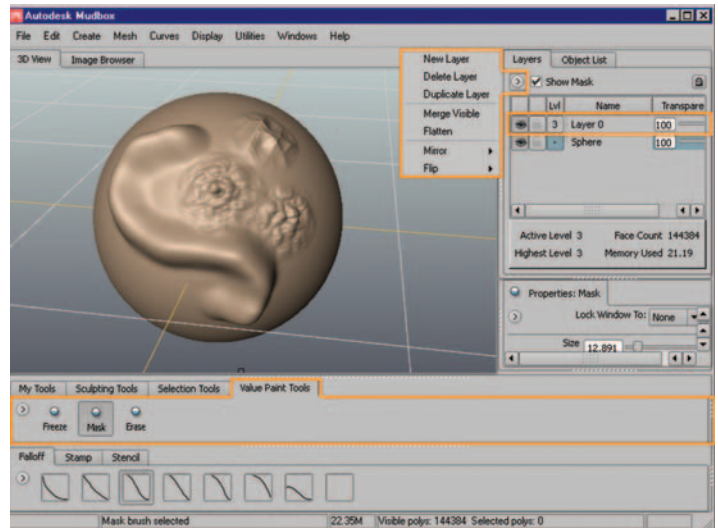

Figure 11.33 The Layers tab and the drop-down menu, as well as the Value Paint Tools menu with Mask selected.
9. In Mudbox, creating a new layer lets the user work with some powerful masking options. Click the Value Paint Tools tab. By default you are presented with Freeze, Mask, and Erase. Click on Mask to select it. Figure 11.33 shows the Layers tab and the drop-down menu as well as the Value Paint Tools menu with Mask selected.